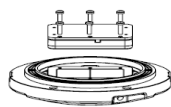

Figure 5-6
- Dismount 6 M5×16 screws and remove the mounting plate of the aluminum substrate and prism pressing bracket (containing LED lamp) (see Figure 5-6).